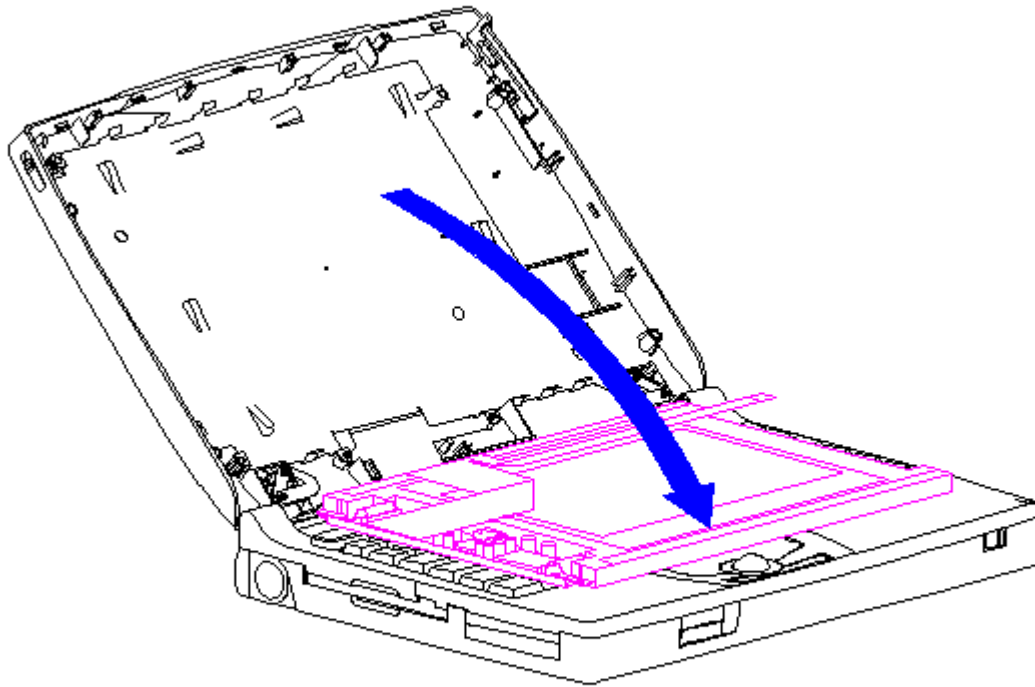

Figure 3-119. Removing the CTFT (8.4 inch) Panel from the Display Enclosure (Models 400 and 410)
8. Carefully rotate the CTFT (8.4 inch) panel down and out of the display enclosure, laying the CTFT (8.4 inch) panel gently on the keyboard assembly (Figure 3-119).